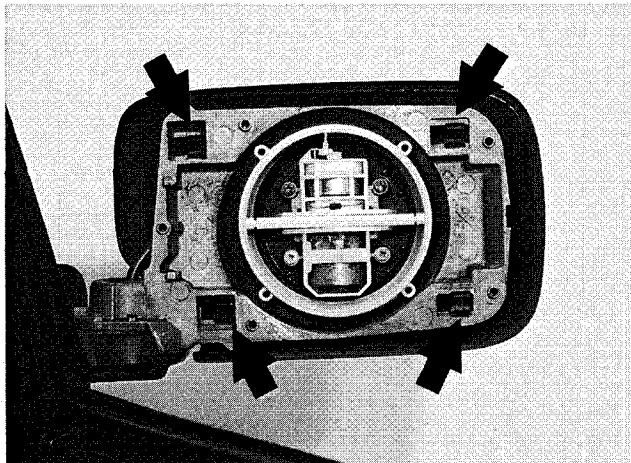

Fig. 3. Use needle-nose pliers to release retainers (arrows).
3. Tilt mirror housing forward and compress plastic retainers and lift off front housing. See Fig. 3.